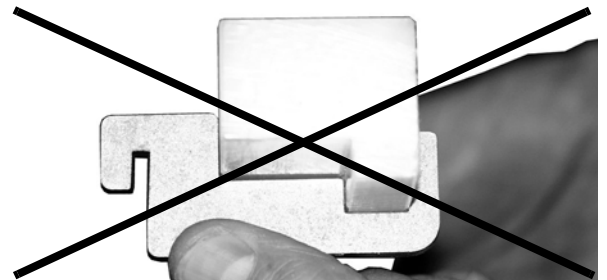
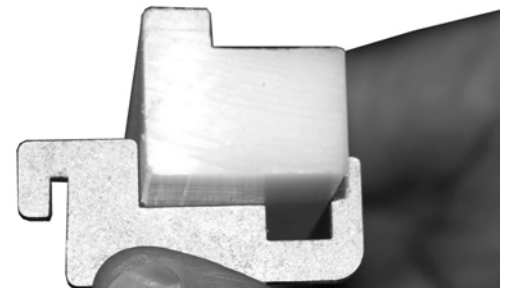

Figure 23
Figure 24
3. Verify that belt returns are mounted correctly by following graphic below (Figure 23) shows incorrect mounting and (Figure 24) shows correct mounting.